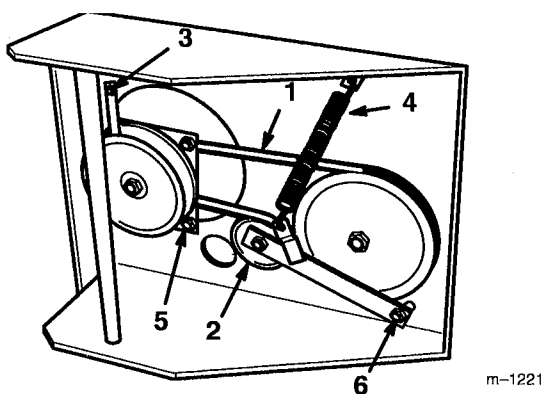

Figure 30
4. Remove left front engine mounting bolt securing clutch retainer to frame (Fig. 30). Unhook retainer from clutch and remove retainer.
5. Unhook tension spring from side of frame (Fig. 30).
8. Torque pivot bolt to 35-40 ft. lb. (47-54 N.m). Install tension spring between idler arm and frame bracket (Fig. 30).